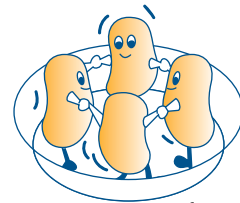

fig. 10
- 5) If you are preparing a large number of portions of the same food item (e.g., boiled potatoes), **place** those portions in a Pyrex dish in order to have them cook in a uniform manner (see Fig. 10):